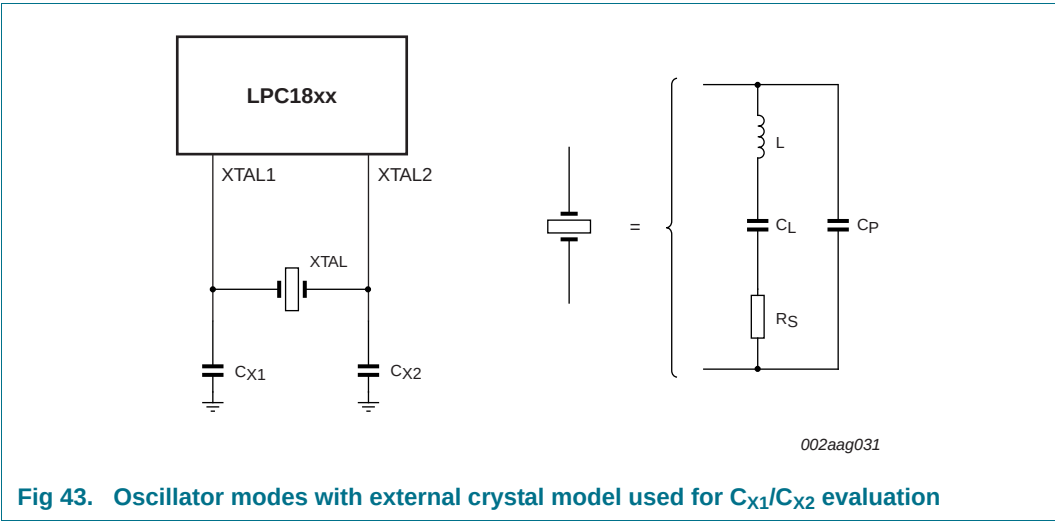

Fig 43. Oscillator modes with external crystal model used for C_{X1}/C_{X2} evaluation
- External components and models used in oscillation mode are shown in Figure 43, and in Table 37 and Table 38. Since the feedback resistance is integrated on chip, only a crystal and the capacitances C_{X1} and C_{X2} need to be connected externally in case of fundamental mode oscillation (L , C_L and R_s represent the fundamental frequency). Capacitance C_P in Figure 43 represents the parallel package capacitance and must not be larger than 7 pF. Parameters F_c , C_L , R_s and C_P are supplied by the crystal manufacturer.